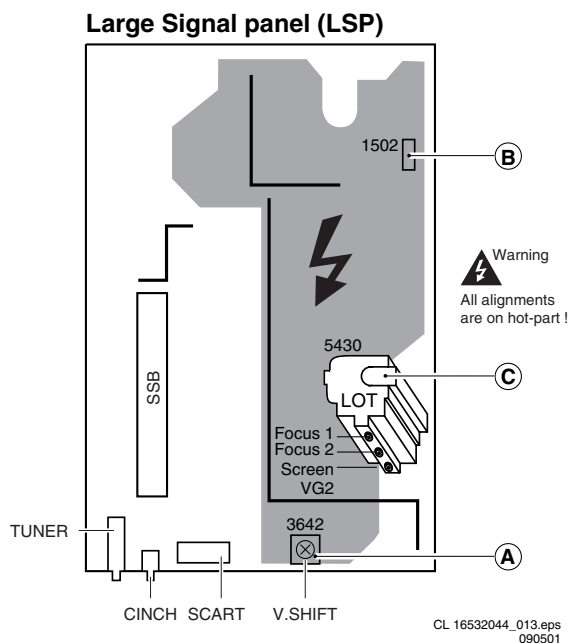

Figure 8-1
5. First turn the Vg2 potmeter on the LOT (see Fig. 8-1) to the left (OSD feedback will show 'Out high').
7. Select the cathode with the highest V_{DC} value for the alignment. Adjust the V_{cutoff} of this gun with the SCREEN potentiometer on the LOT (see Fig. 8-1) to the correct value (160 ± 3 V_{DC}).
3. Adjust the FOCUS 1 potentiometer (upper potmeter, see Fig. 8-1) until the horizontal and vertical lines at 1/4 from east and west, at the height of the centre line, are of minimum width without visible haze.
4. Adjust the FOCUS 2 potentiometer (middle potmeter, see Fig. 8-1) until the horizontal and vertical lines at 1/4 from north and south, at the height of the centre line, are of minimum width without visible haze.